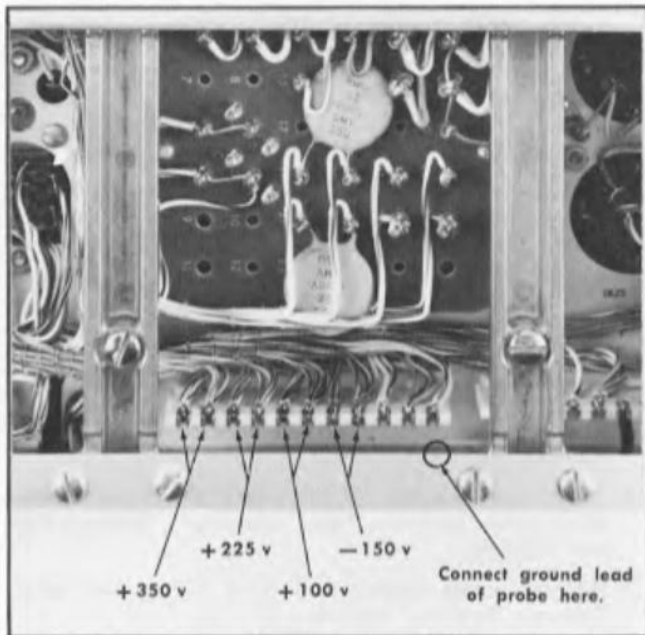

Fig. 5-1. Low-voltage power supply test point locations.
4. Using the VOM, check the resistance from the regulated power-supply terminals to ground as shown in Fig. 5-1. The values of resistance should be approximately as indicated in Table 5-1, once the capacitors are charged by the VOM internal battery.
b. Check the voltage accuracy of each power supply output using the VOM according to the information given in Table 5-3. The location of the test points is shown in Fig. 5-1.
- a. Monitor the regulated output of the -150-volt supply with the VOM. The test point location is shown in Fig. 5-1.
ripple due to ground loops is to temporarily disconnect the chassis ground wire in the power cord by using an ungrounded 3- to 2-wire line-plug adapter. Then use a ground lead from the signal probe body to make a ground connection to the oscilloscope chassis at the location shown in Fig. 5-1. The probe will then provide the only ground connection between the two instruments. The term "test oscilloscope" is item 1 under "Equipment Required" while the term "oscilloscope" or "instrument" is the oscilloscope being calibrated.